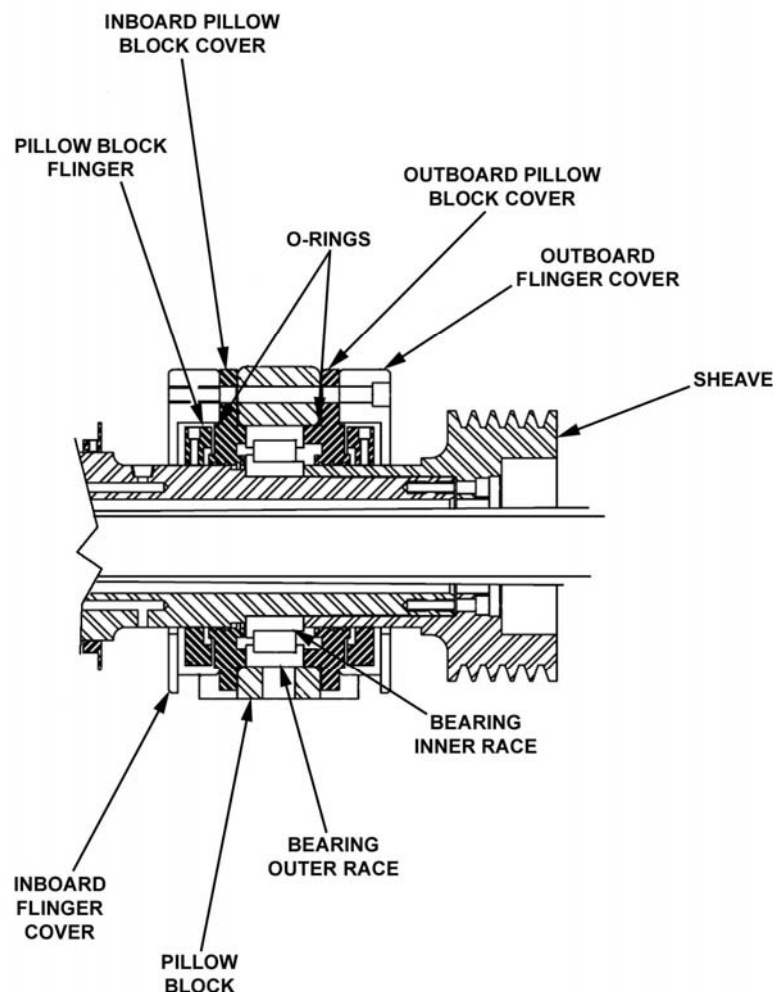

Figure 5-11 Solid End Main Bearing Installation
1. Remove screws securing inboard and outboard flinger covers (Figure 5-11) to pillow block, and lift and remove inboard flinger cover.